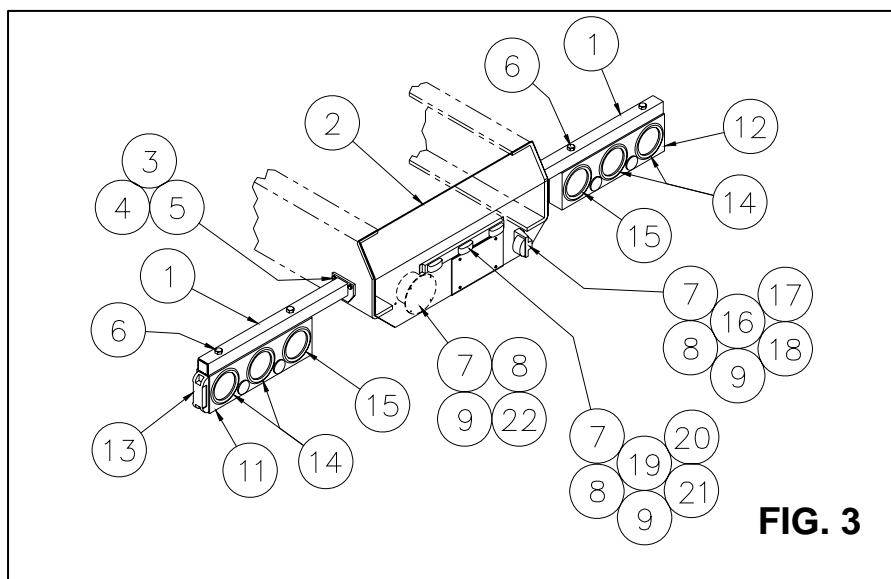

FIG. 3
4. Position stub light bar weldment [Part No. 51H69] on truck frame. Stub light bar weldment should be as high and as far back as possible on the truck frame to avoid interference with the bumper and fenders. It may be necessary to modify the stub light bar weldment to avoid interference. Drill mounting holes as required and mount using fasteners provided (See Fig. 3).
5. Attach the tail light module to the stub light bar weldments with the fasteners provided (See Fig. 3).
6. Mount the identification light bar at top center of the center plate [Part No. 63H08] using the fasteners provided (See Fig. 3).
7. Mount license lamp right of the license plate (See Fig. 2) using the fasteners provided (See Fig. 3).
8. Mount junction box on the back left side of center plate (See Fig. 2), using the fasteners provided (See Fig. 3).
5. Install the roller [Part No. 10H12] between the brackets with the roller axle [Part No. 10H31] and the fasteners provided (See Fig. 3). Grease the rollers before use.